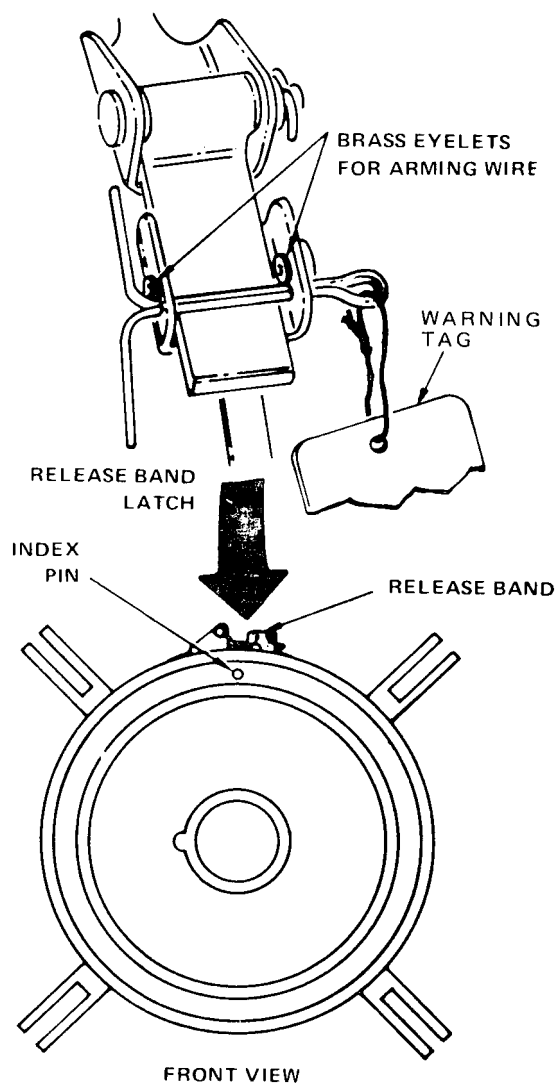

Figure 3-9. Enlarged View of Release Band Latch
- b. Relatch release band and insert cotter pin as shown in figure 3-9.